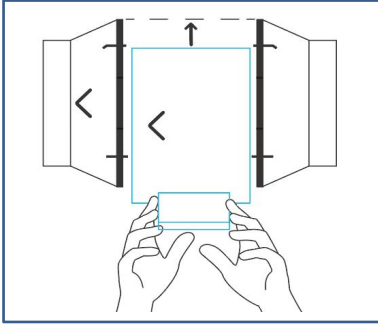

Fig.9.
- Slide the motor box back into the flange bracket, making sure its airflow arrow is pointing in the same direction as the flange bracket's arrow. Tighten the metal clamps using a Phillips screwdriver and pliers to secure the motor box. See the (Fig.9.)